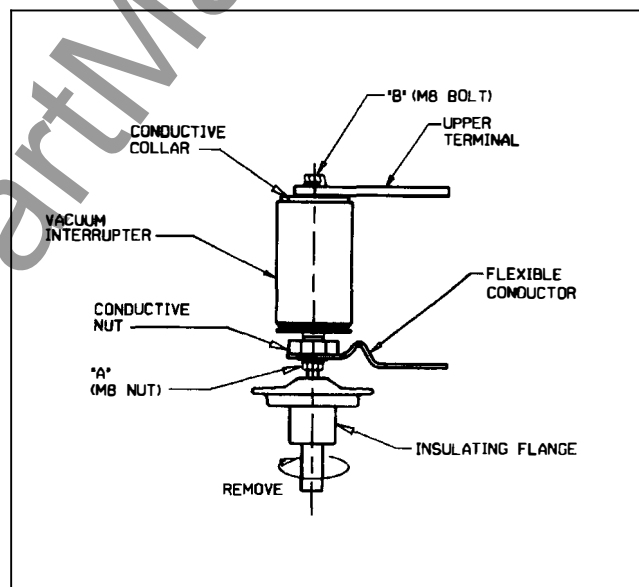

Figure 12. Vacuum Interrupter Removal
Removing the Interrupter (refer to Figure 12)
- 3) Hold the vacuum interrupter with left hand (use glove or cloth) and fasten bolt "B" (see **Figure 12**) (torque to 120kg-cm or 102in-lb).